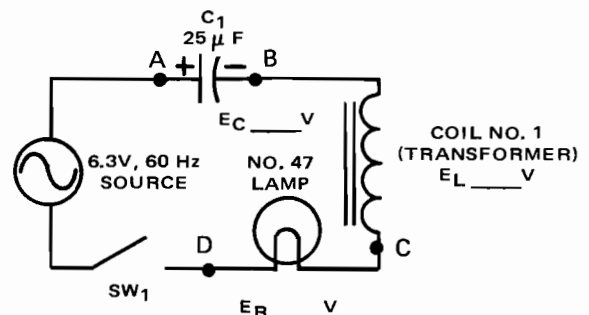

Fig. 11-1-1
1. Connect series resonant circuit, Fig. 11-1-1.